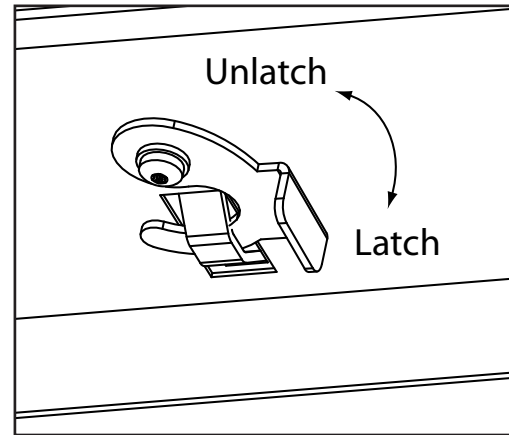
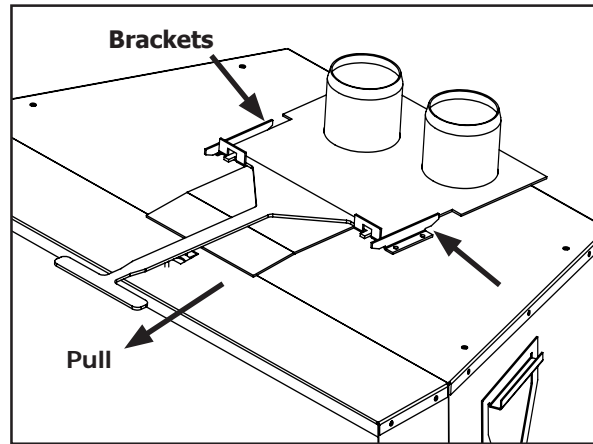

Figure 49: Vent Collar Plate Latch.
Figure 50: Vent Collar Plate Tool.
10. If the fireplace opening is lower than 24" (610 mm), remove the vent collar plate from the top of the insert by unlatching the hook located on the center top of the stove above the door opening (see Figure 49). Slide the collar plate backwards. Properly secure the vent collar plate to the flexible vent pipe liner(s) previously installed in the chimney. Be careful not to over-stretch the liner(s).
11. Apply a bead of stove cement sealant to the top section of the Ø3" (76mm) exhaust vent collar plate. Slide the Ø3" (76mm) flex vent over the flue collar and secure with three (3) sheet metal screws evenly spaced.
12. Place a bead of high temperature silicone on the intake collar of the fireplace, slide the Ø3" (76mm) flex intake liner over the collar, secure the flex liner with three (3) sheet metal screws evenly spaced.
14. As you push the unit into its final position in the fireplace, if the vent collar plate was removed, reinstall it on the stove by pulling it into the brackets on top using the supplied tool and latch it back in place (shown in Figure 50).